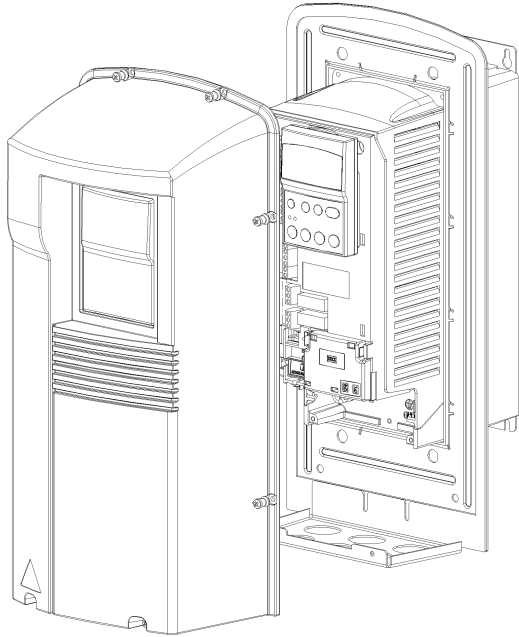

Figure 10 Opening type IP 54 / NEMA 12 drives.
- 1 Remove the front cover, see Figure 10.